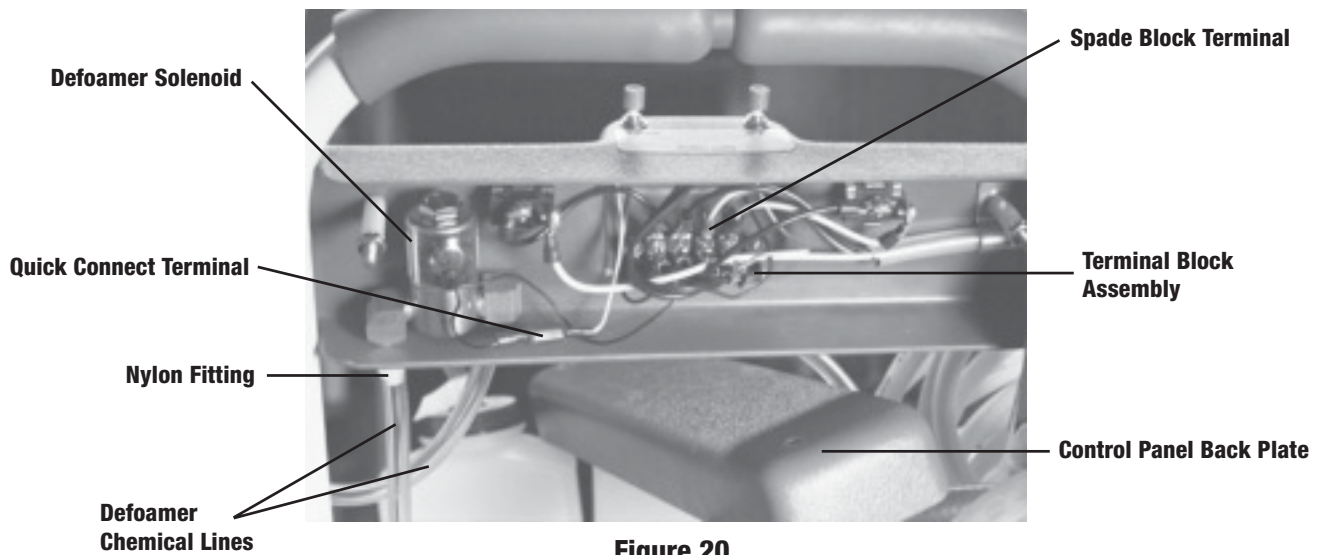

Figure 20
2. Remove back plate of control panel (fig. 20).
3. Wiggle both defoamer chemical lines off their nylon fittings (fig. 20).
5. Separate quick-connect terminal (fig. 20).
6. Remove spade block terminal from terminal block assembly (fig. 20).